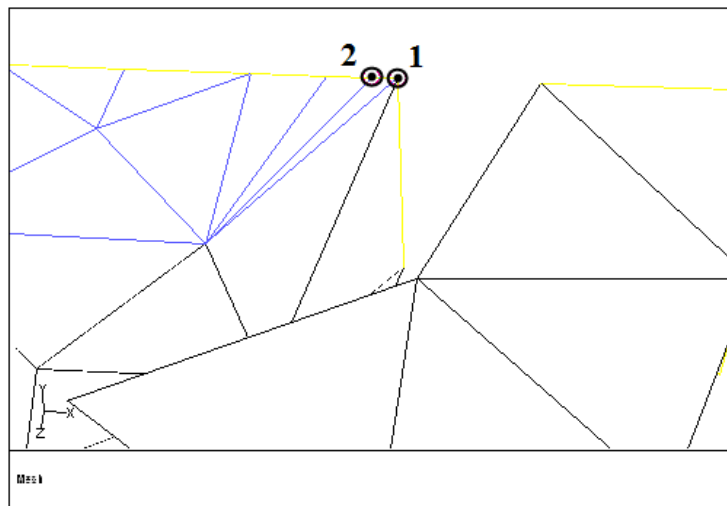

Figure 1.9: Nodes to be Merged
- (d) Select the corner node where the **symmetry** zone meets with the **inlet** zone and the **wall2** zone and the neighboring node (highlighted before the **Selections** list was cleared). See Figure 1.9.